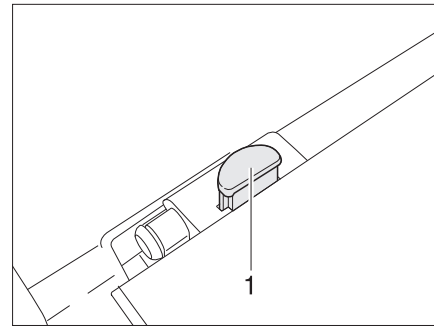

Fig. 14 Table top locking mechanism
- Press the release knob (Fig. 14,1) at the locking mechanism of the table-top.